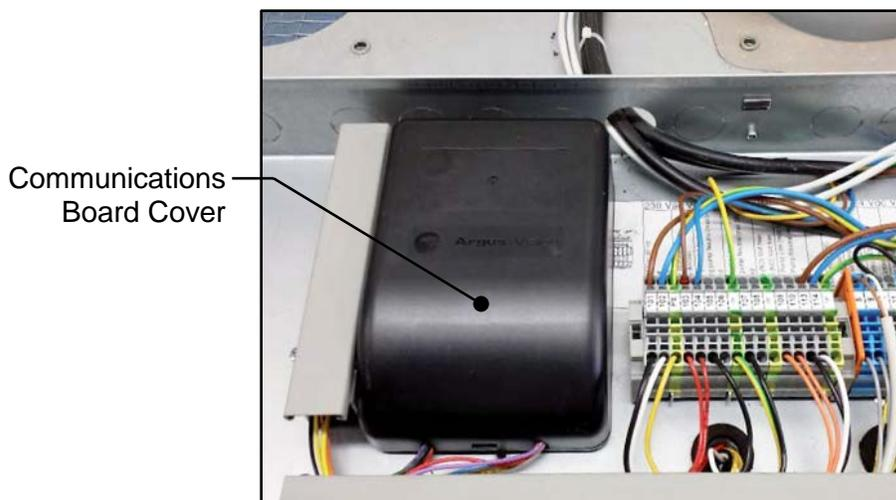

Figure 1-15: Locating the Communications Board inside Electrical Junction Box
2. Locate the communication board cover inside the junction box (see Figure 1-15).